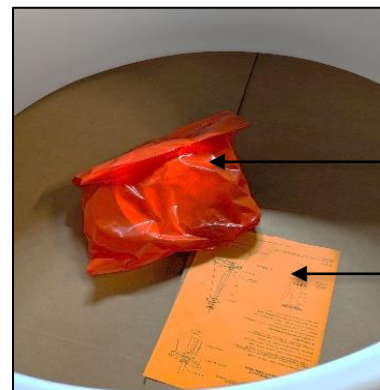

FIG. 3 RED BAG AND
2. INSTALLATION INSTRUCTIONS (shown in FIG. 3) - Please completely read the install instructions before starting installation.
3. RED BAG (shown in FIG. 3)